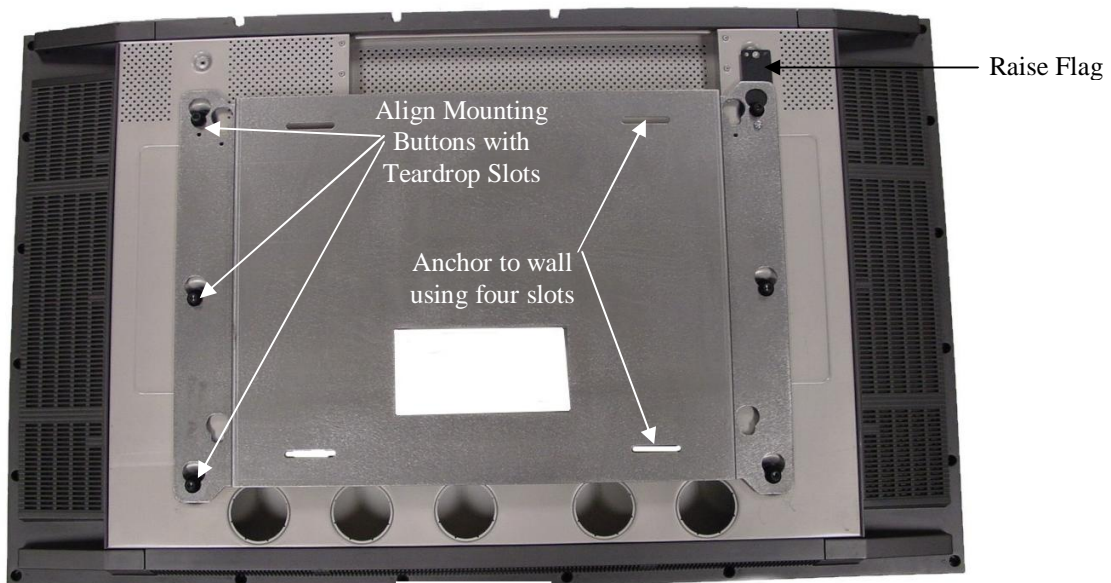

Figure 4
3. Securely anchor plasma static mount to the wall using wall studs or supporting framework (see Figure 4).
5. With the aid of another person, lift the display up to the mount, align the mounting buttons on the display with the teardrop slots in the mount, and set the display into place (see Figure 4).
6. Position (raise) the flag to secure the display (see Figure 4)